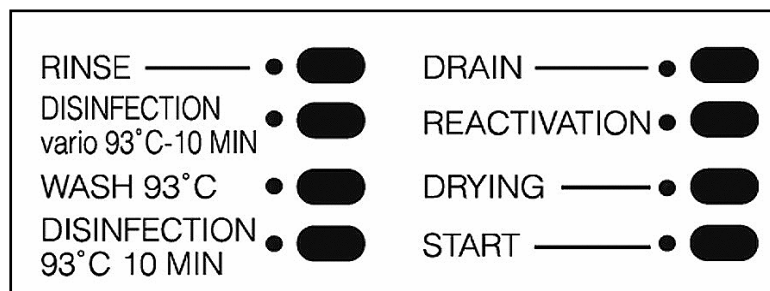

Figure 3-1: Program Indicators
1. Press and hold the **“Drying and Drain”** buttons together, see figure 3-1, and at the same time turn the appliance on. **“P0”** or **“0”** appears in the display. If **“P0”** appears, press the **“Reactivation”** button once so that **“0”** is displayed.
1. Press and hold the **“Drying”** and **“Reactivation”** together and at the same time switch the appliance on. See figure 3-1.
1. Press and hold the **“Drying”** and **“Drain”** together, see figure 3-1, and at the same time switch the appliance on. **“P0”** appears in the display.
1. Press and hold the **“Drying”** and **“Drain”** together, see figure 3-1, and at the same time switch the appliance on.
2. Press the button **(DESIN 93° C-10’)**, see figure 3-1, a **“10”** or **“11”** appears in the display indicating 60 seconds or 120 seconds.
2. When the button **“Wash”**, see figure 3-1, is pressed, **“20”** appears in the display indicating that there is no additional interim rinse programmed. Press the **“Drying”** button once, see figure 3-1, to change **“20”** to **“21”** and activate the additional interim rinse function.
1. Press the “**Drying**” + “**Drain**” buttons together, see figure 3-1, and at the same time turn the machine on. “**P0**” appears in the digital display.
2. When the “**DESIN Vario**” button is pressed, figure 3-1, “**30**” appears in the display.
3. Press the “**Drying**” button once, figure 3-1, to change “**30**” to “**31**”.
4. When the “**Rinse**” button is pressed, figure 3-1, “**40**” appears in the display.
5. Press the “**Drying**” button once, figure 3-1, to change “**40**” to “**41**”.
1. Press the “**Drying**” + “**Drain**” buttons together, figure 3-1, and at the same time turn the machine on.
2. Press the “**DESIN Vario**” button, figure 3-1. “**30**” or “**31**” appears in the display.
3. Press the “**Rinse**” button, figure 3-1 “**40**” or “**41**” appears in the display.